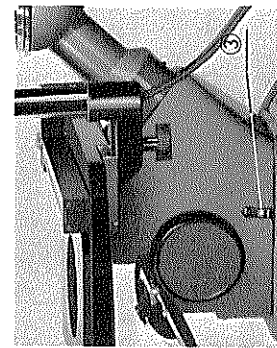

Fig. 2
- (2) When the pillar is attached at the rear side of the stage, hook the illuminator cord on the cord holder ③ for convenience of your microscopy. (Fig. 2)